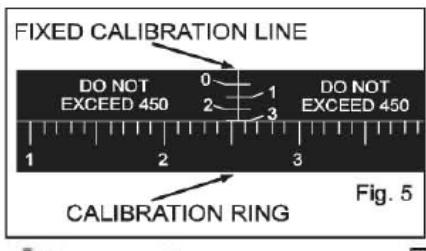

Fig. 5
**12. PUMP STROKE ADJUSTMENT.** The knurled ADJUSTMENT NUT on the pump head controls stroke to stroke piston displacement. Turning it clockwise to zero stops displacement. Turning the ADJUSTMENT NUT counterclockwise four and one half turns from zero (450 on scale) (fig. 5) causes maximum pump reciprocation, e.g., 50 µl per stroke for the H-0 or 100 µl for the H-1 unit. Thus each 1-1/8 turn (112.5 on scale) of the ADJUSTMENT NUT represents 25% of maximum (12.5 µl for H-0 and 25 µl for H-1) and each graduation on the ring represents an adjustment of 1/450th of maximum (0.111 µl for H-0, 0.222 µl for H-1).